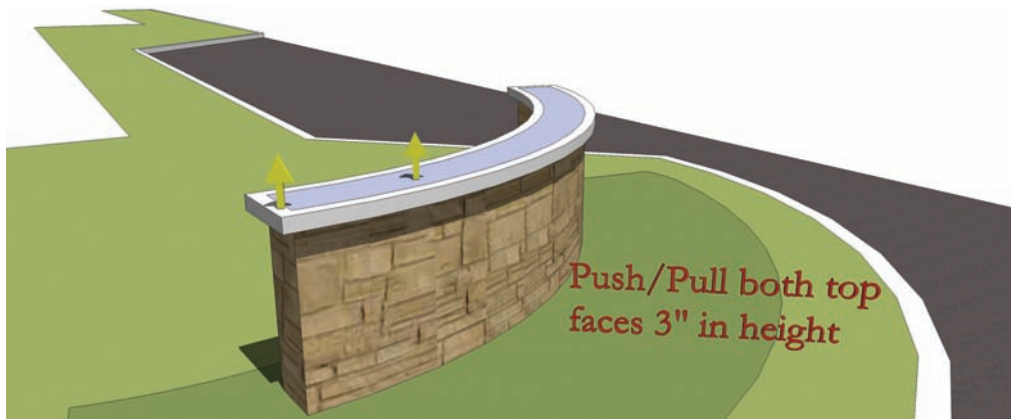

Fig. 7-44: Push/Pull the top faces of sign wall 3" in height.
- c. Delete the excess lines of the inner face and add color to the faces (Fig. 7-44).